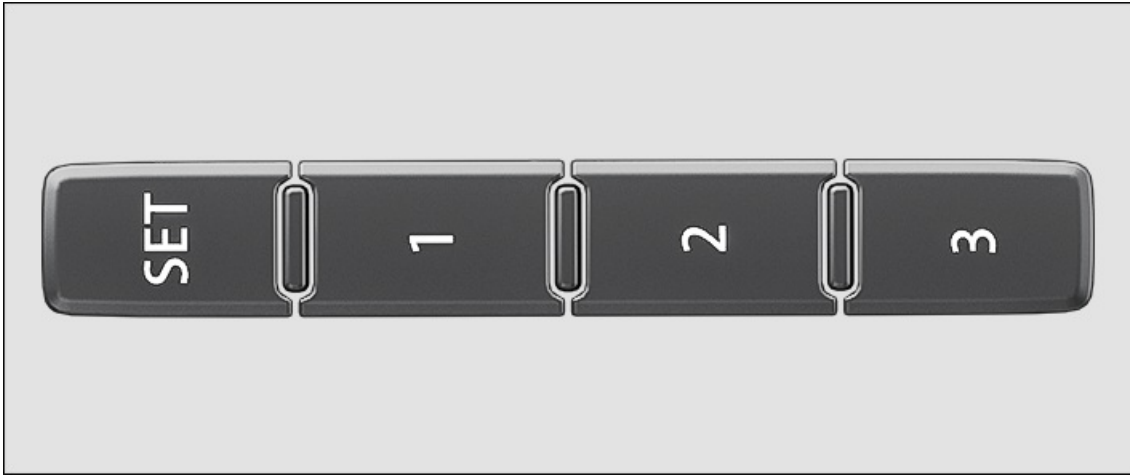

Fig. 67 On the outer side of the driver's seat: memory buttons.
5. Press and hold the **SET** button fig. 67 for longer than one second.
6. Press the desired memory button fig. 67 within approximately 10 seconds.
4. Press the desired memory button fig. 67.